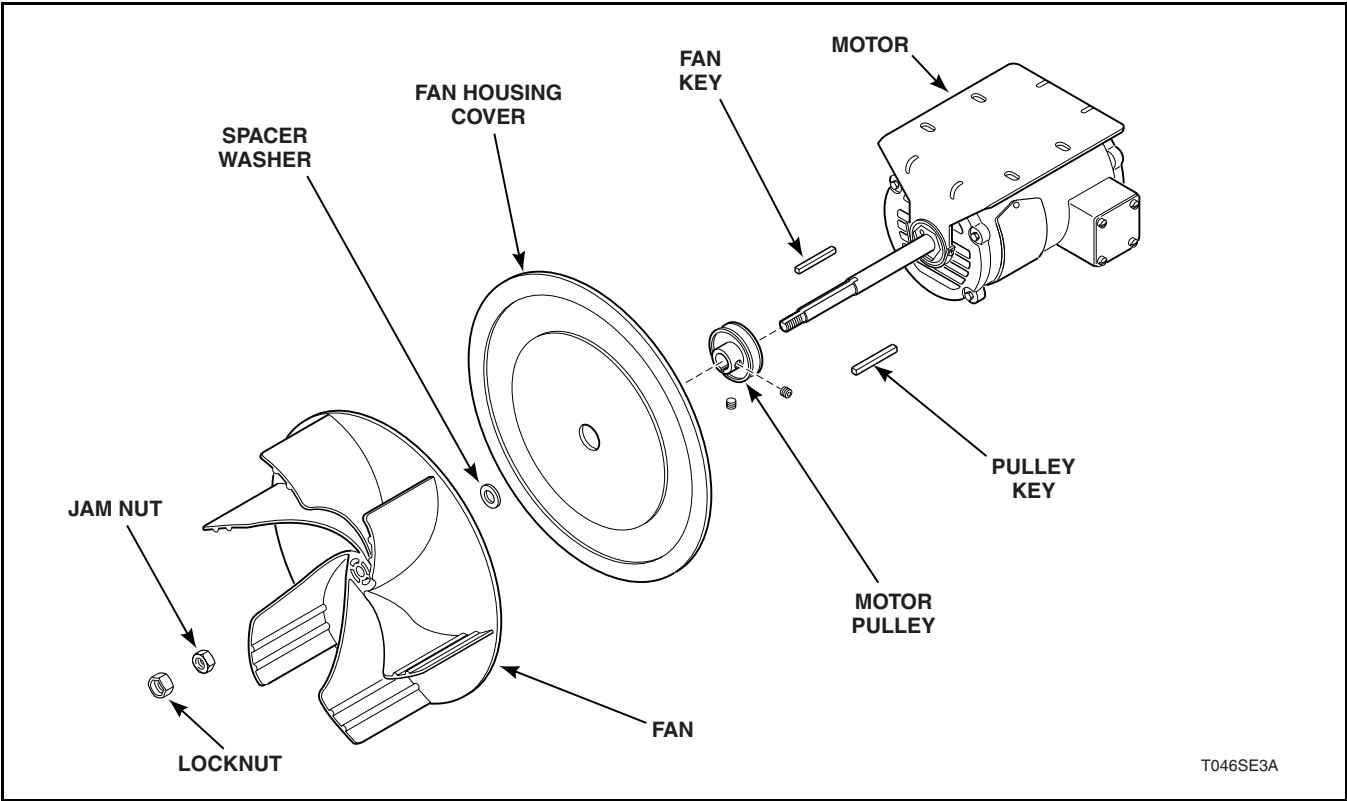

Figure 38
- l. Remove locknut and jam nut holding fan on motor shaft. Refer to *Figure 38*. Pull fan off motor shaft.
- m. Remove spacer washer from motor shaft. Refer to *Figure 38*.
- n. Loosen two setscrews holding motor pulley to motor shaft. Refer to *Figure 38*. Remove motor pulley.